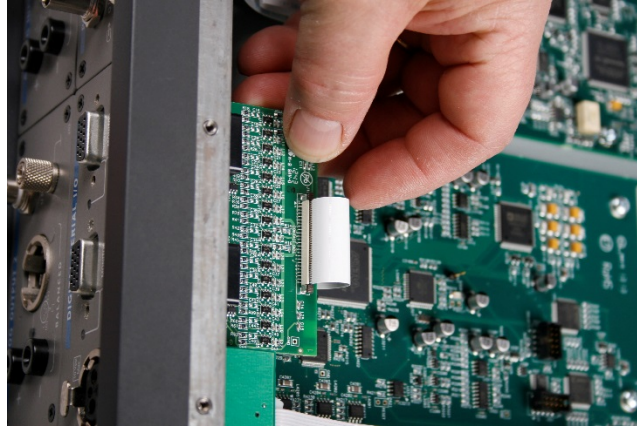

Figure 1 DSIO module ribbon cable.
5. On the DSIO Main module board, release the clamp on the ribbon cable connector and disconnect the ribbon cable (Figure 1).